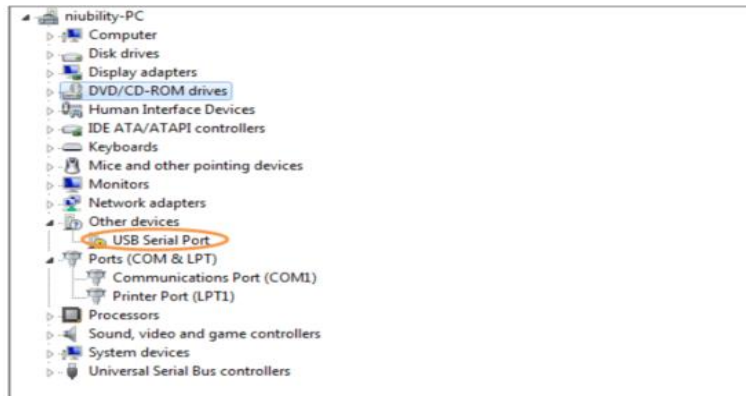

Figure 5-9 Unrecognized USB Serial Port on PC
- Open PC **Device Manager**, if you find an unrecognized USB Serial Port in Device Manager as shown in **Figure 5-9**, you should install the UART to USB driver before you run the demonstration. The driver CP210x_VCP.exe is located in the C5P System CD directory Tool\serial_driver\, execute it and install.